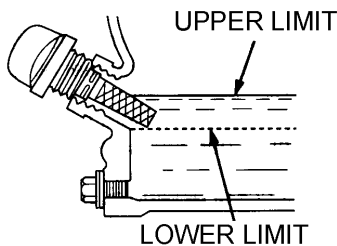

Figure 5. Engine Oil Dipstick (Oil Level)
4. If the oil level is low (Figure 5), fill to the edge of the oil filler hole with the recommended oil type as listed in Table 4. Reference Table 2 for maximum engine oil capacity.